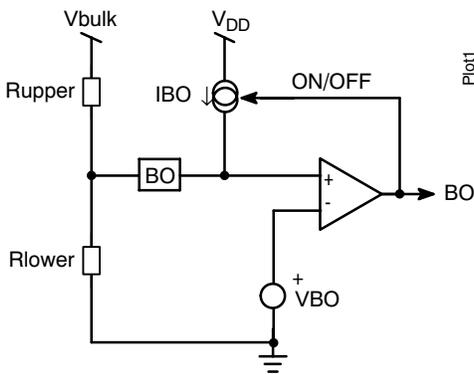

Figure 30a. The internal brown-out configuration with an offset current source.
Figure 30a, offers a way to observe the high-voltage (HV) rail. A resistive divider made of R_{upper} and R_{lower} , brings a portion of the HV rail on pin 3. Below the turn-on level, the $10\ \mu\text{A}$ current source IBO is off. Therefore, the turn-on level solely depends on the division ratio brought by the resistive divider.